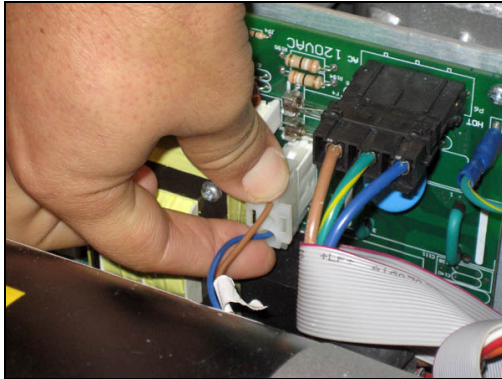
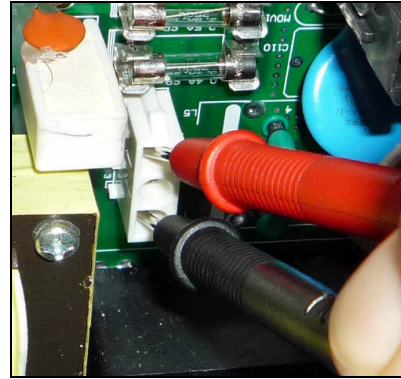

Fig. 4
Fig. 5
4. Disconnect the power supply cable (P1) from the MCB (Fig. 4). Set the multi-meter to read AC voltage. Put one lead on pin 1 and the other on pin 3 (Fig. 5). There should be 120 VAC (or 220 VAC).